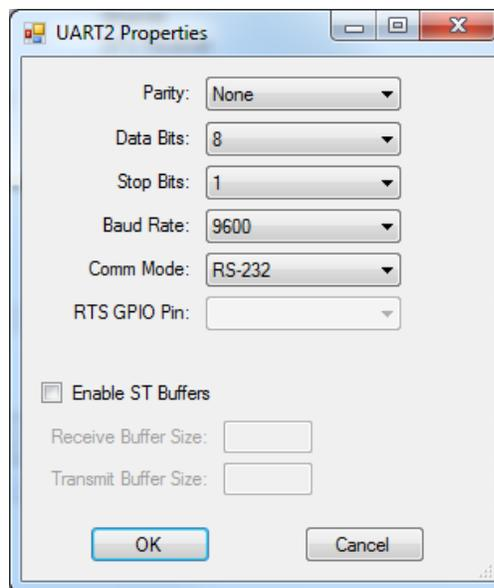

Figure 2-35 - UART Properties
5. Using the drop-down menu items, select the parity, data bits, stop bits, baud rate and Comm Mode pin from the available drop down options. If you are planning to use structured text to communicate with devices on this port, click the *Enable ST Buffers* checkbox and enter the transmit and receive buffer size. Refer to Figure 2-35. Click **OK**. The *UARTX Properties* dialog will close.